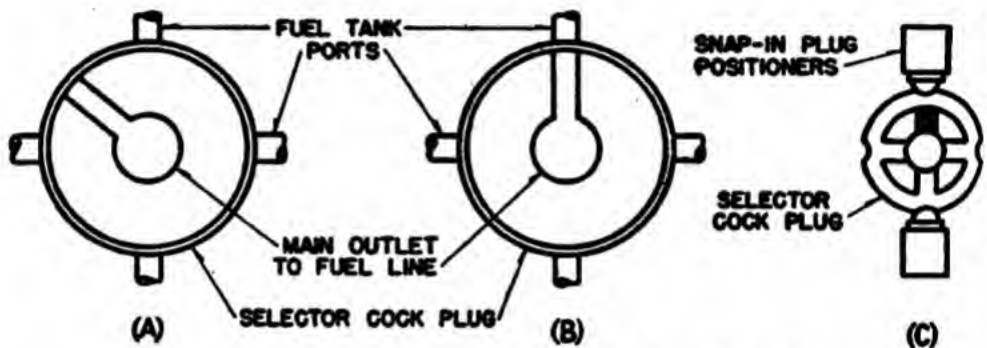

Figure 21.—Principle of operation of fuel-selector valve.
The simple diagrams in figure 21 will show you the principle on which fuel-selector valves operate. When the dash lever is in the off position, the opening in the central plug is not registering with any fuel line. This position is shown in view (A). When the dash lever is moved to a tank position, the center valve turns so as to connect the inlet port with an outlet line and fuel flows from the tank selected. This is illustrated in view (B), in which the center tank is supplying gasoline and the two side tanks are shut off.
Backlash may develop in the selector-valve control linkage, and the fact that the lever on the cockpit control unit is set in the center of the correct dial sector does not necessarily mean that the valve plug is in the correct position. Be sure that the valve "clicks" audibly when you move the lever to the desired position, as this removes guesswork from the operation. Spring-actuated position-finding lugs are provided in the valves, and these snap into detent notches in the valve body in the various dial positions with a definite, audible click. See figure 21 (C).